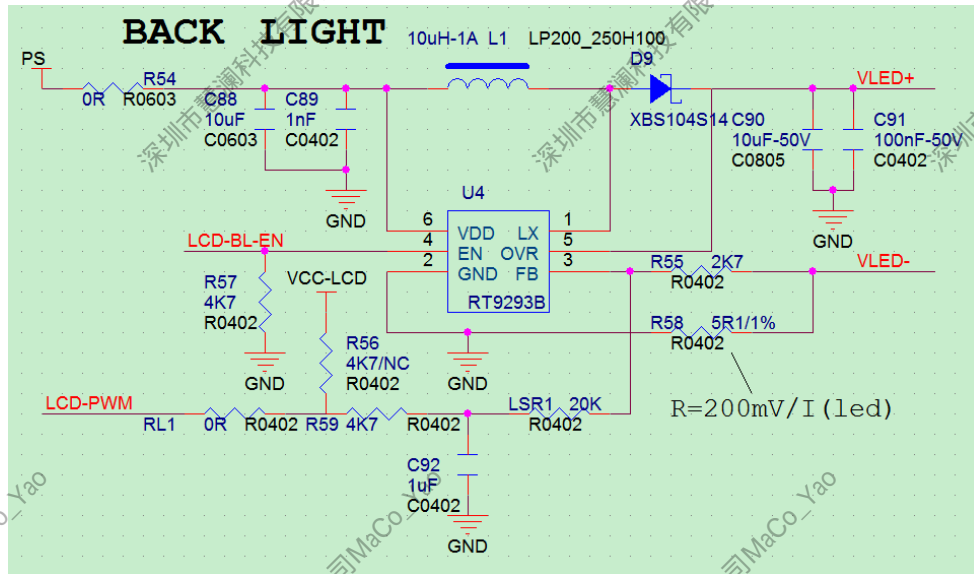

Figure 2-54 LCD Backlight Circuit Design
- The grounded current-limiting resistors of FB end for the backlight IC need be 1% precision and the selected package needs to meet the power demand of the circuit. As shown in Figure 2-54.